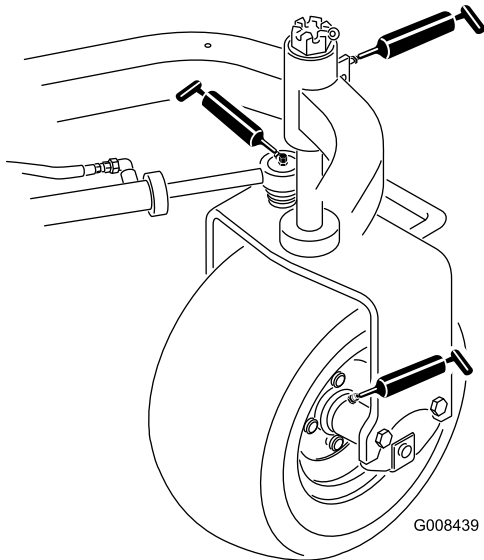

Figure 34
- Rear wheel hub (1) (Figure 34)
- Castor bearing (1) (Figure 34)
- Steering cylinder (2) (Figure 34)